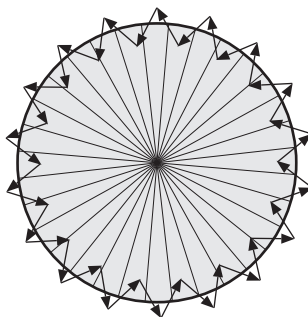

FIG.20
- After the warming up period, walk from outside across to the detection pattern until LED turns on for approx. 2 sec (See FIG.20)